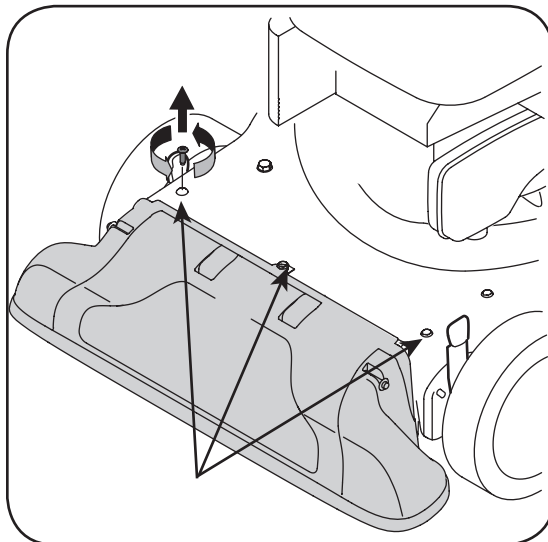

Figure 5-5
6. Remove the three screws on the upper housing that secure the nozzle cover. See Figure 5-5.